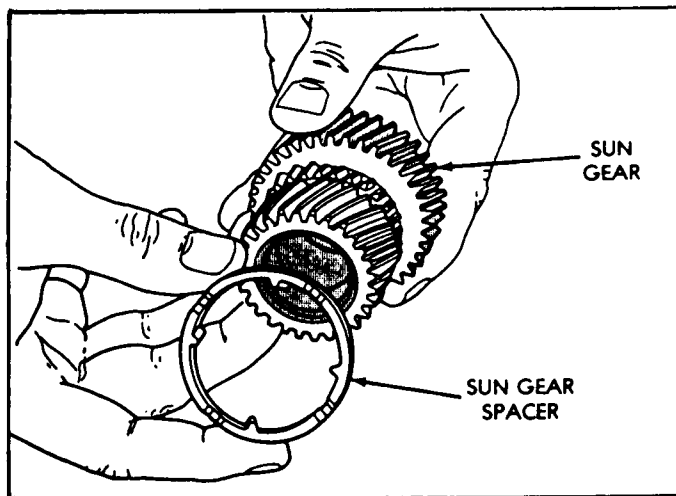

Figure 76
8. Install sun gear spacer on the sun gear as shown in Figure 76.